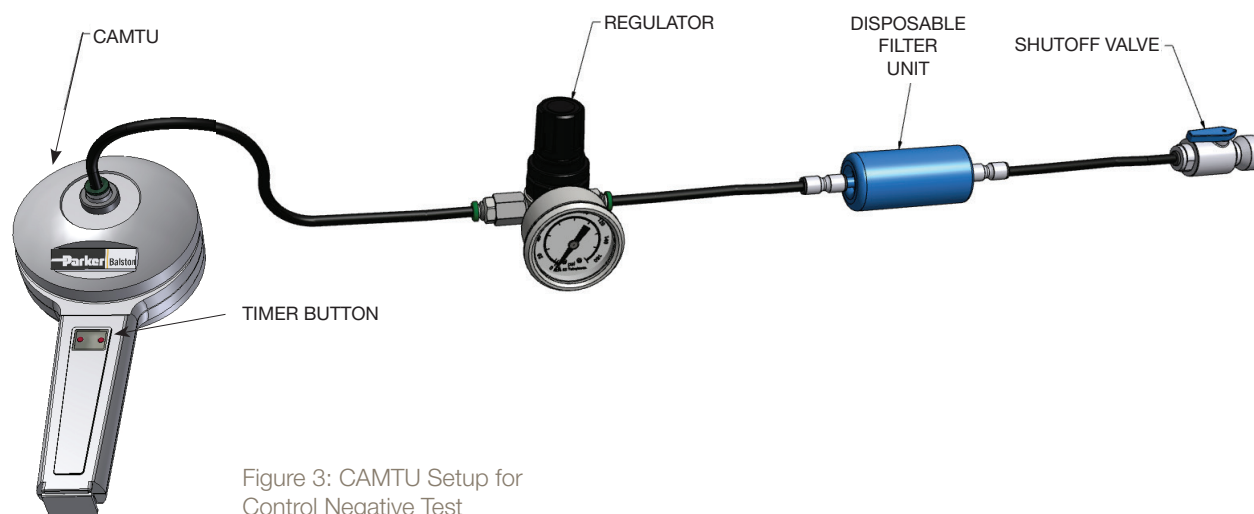

Figure 3: CAMTU Setup for Control Negative Test
2. Assemble the tubing to the shutoff valve, Disposable Filter Unit, regulator and CAMTU as shown in Figure 3.
To clean the regulator and shutoff valve, prepare a fresh bleach/water solution as described above and pour the solution into the regulator and shutoff valve through both the inlet and exit ports. Drain and allow to dry. The drying process can be accelerated by passing sterile compressed air through the components. This can be accomplished by using the filter (p/n C02-2418) connected as shown in Figure 3 so as not to recontaminate the tubing and regulator. It is recommended the filter is replaced every six months.